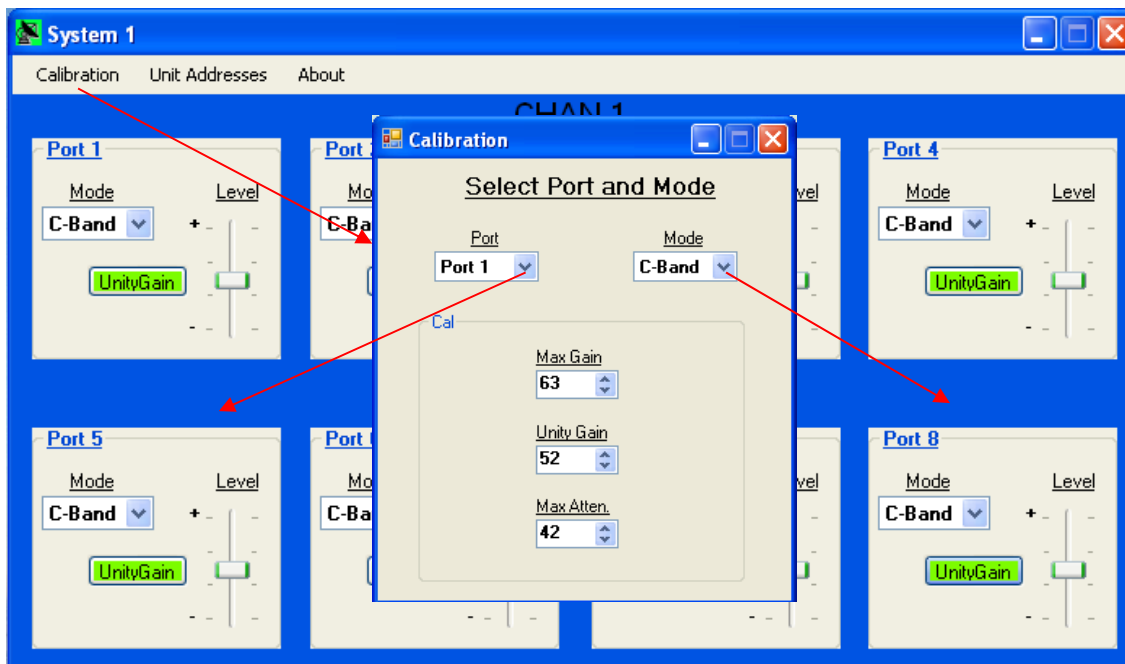

Figure 3-7
Step 1 - Click **Calibration** on the Toolbar. The **Select Port and Mode** calibration screen (**Step 1**) shown in Figure 3-7 will pop up.
Step 2 - Inject a calibrated RF signal level at the mid-point frequency band of interest into CH1 RF Input. From the **Port** Pull-Down menu (Figure 3-7 **Step 2**), select the RF output port to be calibrated and connect a Spectrum Analyzer or similar device capable of monitoring the RF output level to the selected output port.
Step 3 - From the **Mode** Pull-Down menu (Figure 3-7 **Step 3**), select the frequency band to be calibrated, corresponding to the frequency band of the RF signal level input.